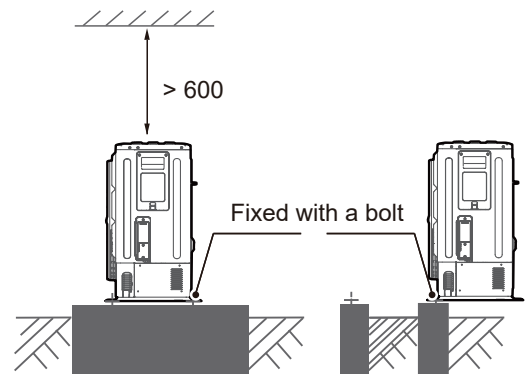

Figure 5-1
- Make concrete foundation according to the specifications of the outdoor units (refer to Figure 5-1).
- Fasten the feet of this unit with bolts firmly to prevent it from collapsing in the event of an earthquake or strong winds (refer to Figure 5-1).